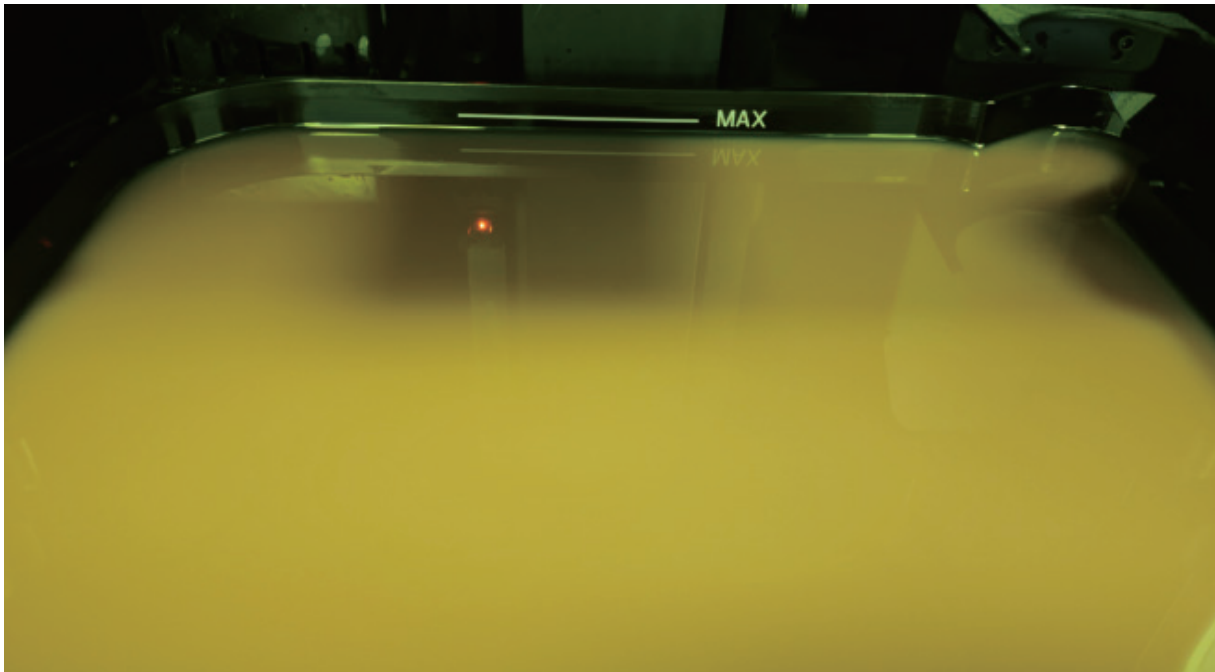

Figure 14
② Before pouring the model resin liquid into the resin tank, shake it for about 1 minute, and the liquid level should be between the MIN line and the MAX line, as shown in Figure 14.